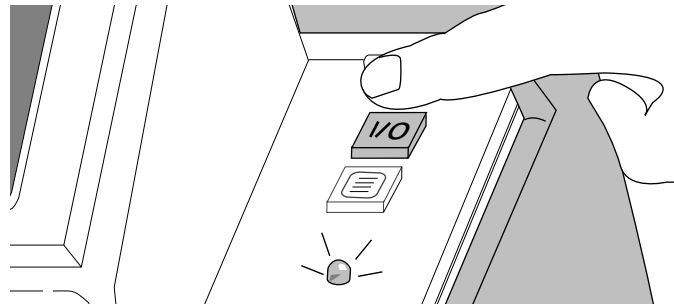

Figure 8
4.1 Turn on the set and check the Power LED for a low condition (flashing). Use the AC adapter if the LED is flashing (Figure 8).